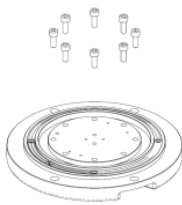

Figure 5-13
- Dismount M6 hexagon socket head cap screws on the upper cover and pressing bracket of the prism (see Figures 5-13 and 5-14).